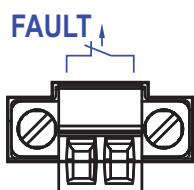

Figure 14: 2-pin terminal block
- ▶ The signal contact (“FAULT”, for pin assignment of terminal block, see figure 14) monitors the functioning of the device, thus enabling remote diagnostics. You can specify the type of function monitoring in the Management.